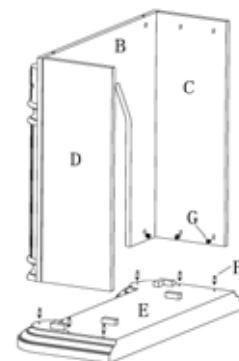

Figure 2
2. Place screw 6 CAM DOWELS (F) into the BASE (E) as shown in figure 2. Insert 6 CAM LOCKS (G) into the mating holes in the LEFT SIDE (C), RIGHT SIDE (D) and FRONT PANEL (B) with the triangle arrow pointing towards the hole in the edge. Mate the LEFT SIDE (C), RIGHT SIDE (D) and FRONT PANEL (B) with the CAM DOWELS (F) in and BASE (E) and twist CAM LOCKS (G) clockwise with a screwdriver to tighten mantel sides to front panel.